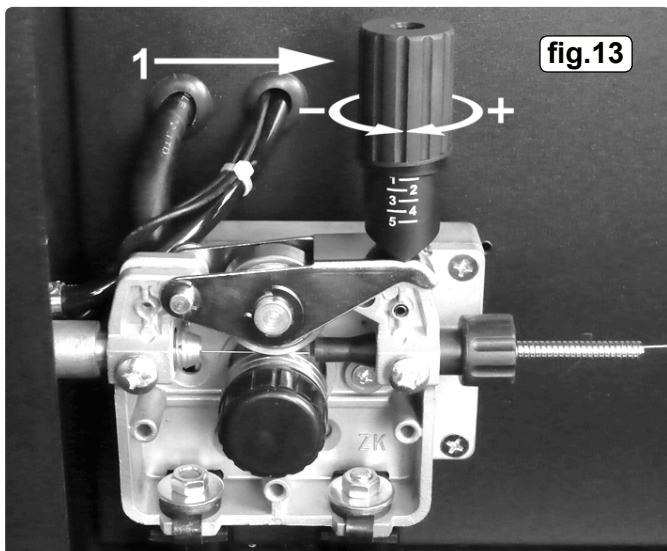

fig.13
- 3.9.3 Push down the pressure roller carrier onto the wire feed roller and hold it down. Lift up the locking/wire tension knob so that it enters the slot in the pressure roller carrier and snaps into the indent in its top surface. See fig.13. Rotate the tension knob to a medium setting i.e. between 2 and 3.
- 3.10 SETTING WIRE TENSION.** Adjust the wire tension by rotating the wire tension knob. Turn clockwise to increase the tension and anticlockwise to decrease the tension. See (1) in fig.13.